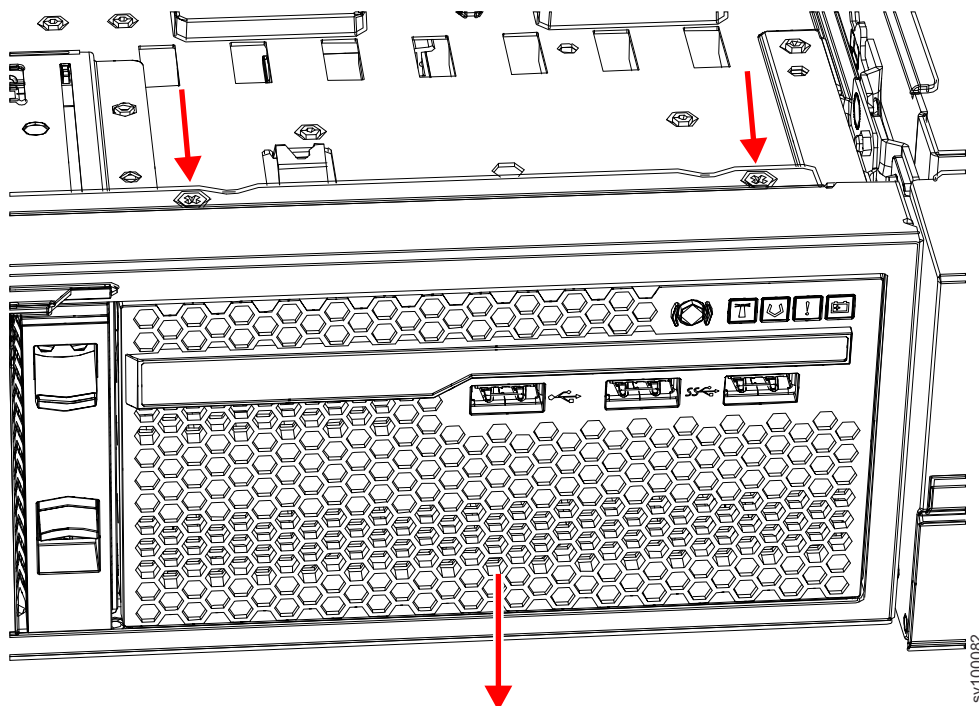

Figure 253. Removing the 2145-SV1 operator-information panel assembly
2. Remove the two screws from the top of the assembly, as shown in Figure 253 on page 302.
3. Push the operator-information panel assembly from behind in the direction that is shown in Figure 253 until it protrudes from the front of the node.